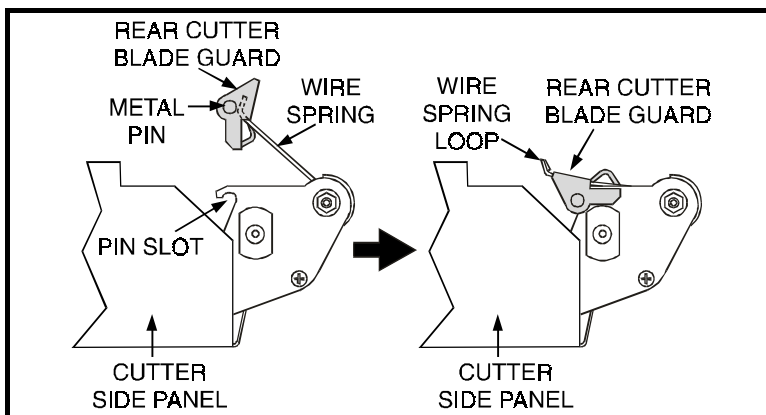

Figure 22 Side View of Cutter Module Reassembly
1. See Figure 22. Position the two Wire Springs down against the Lower Cutter Blade.
3. See Figure 22. Press the Rear Cutter Blade Guard down and forward, rotating the Guard as you proceed, to lock the mounting pins into position in the Cutter Side Panel mounting slots. Slide the Guard forward until the two Wire Spring Loops pop up on the back side of the Guard.